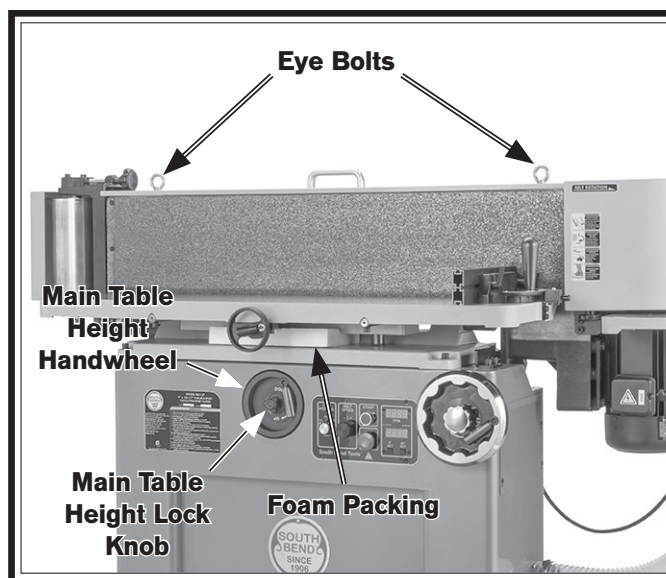

Figure 14. Packing and transport removal components.
2. Remove (2) eye bolts used for lifting (see **Figure 14**).
3. Loosen main table height lock knob (see **Figure 14**).
4. Turn main table height handwheel clockwise a few turns to raise table enough so you can remove foam packing (see **Figure 14**).